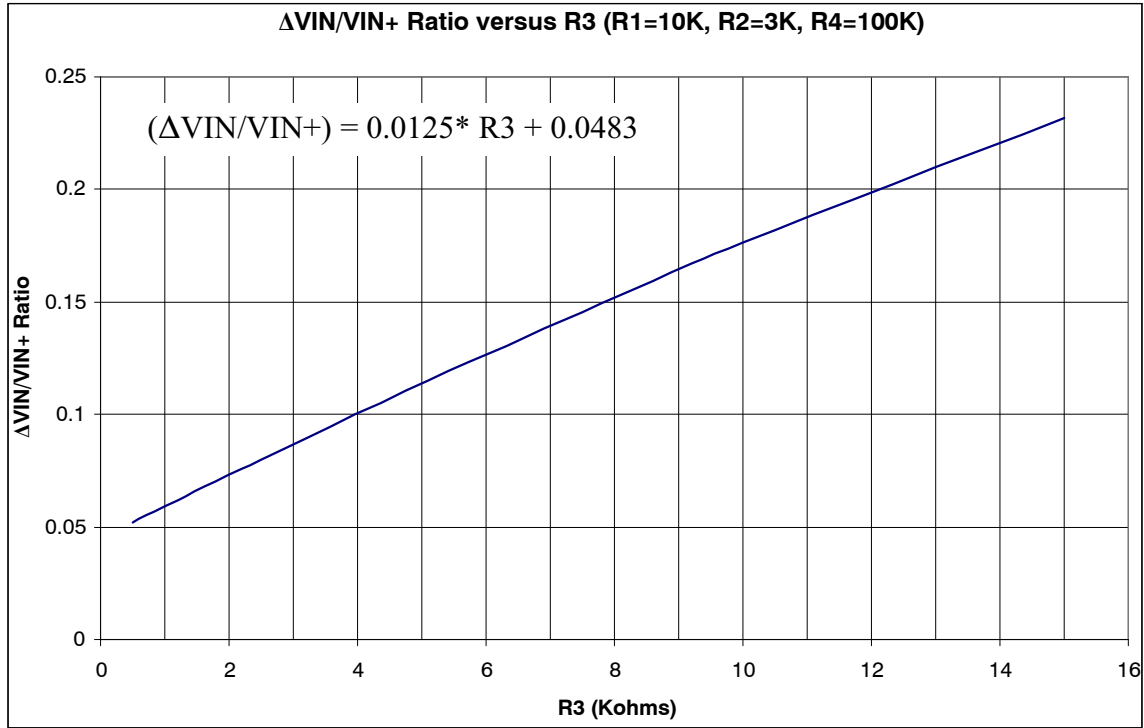
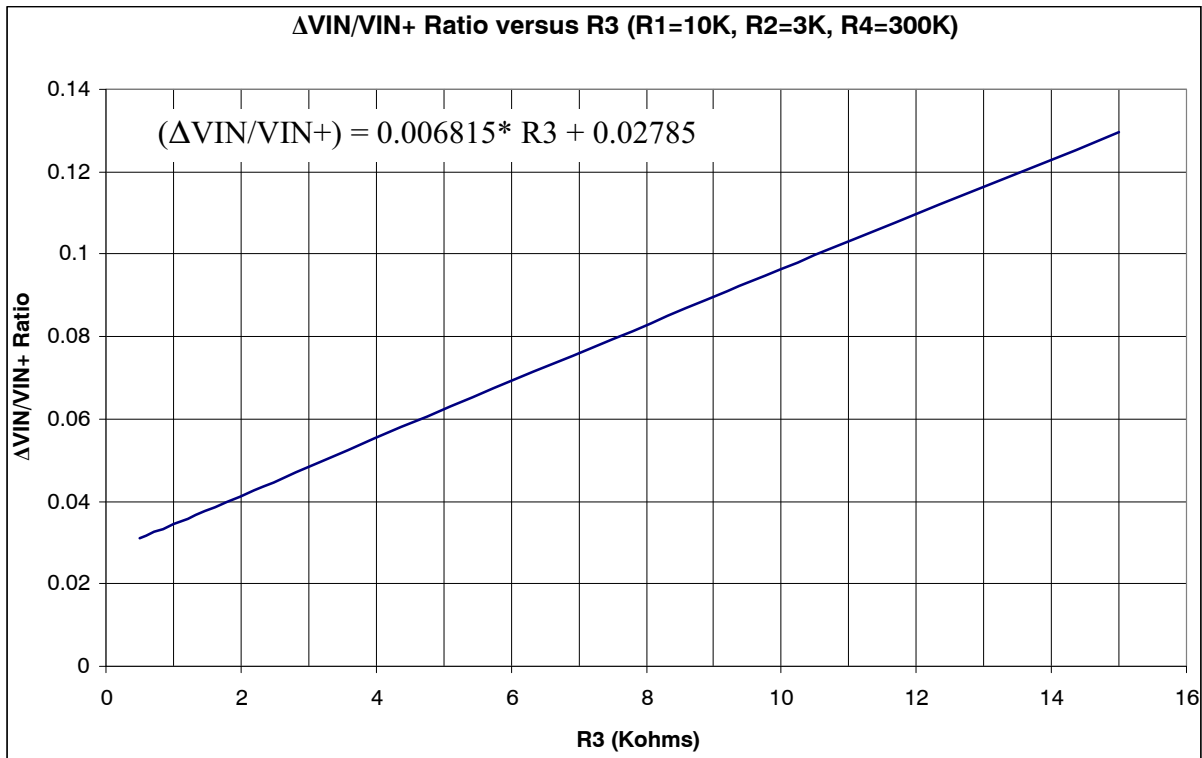
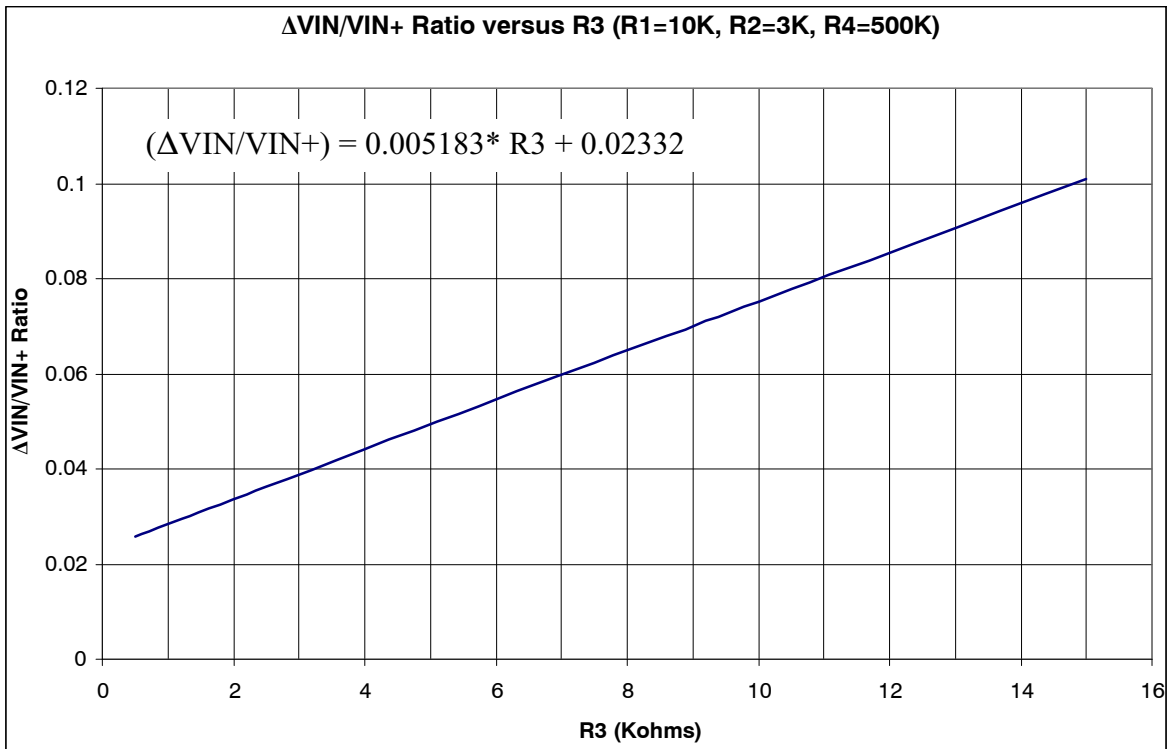

Figure 4. Chart for  $\Delta V_{IN}/V_{IN+}$  Ratio versus R3
Figure 10. Chart for  $\Delta V_{IN}/V_{IN+}$  Ratio versus R3 (R4 = 300k)
Figure 12. Chart for  $\Delta V_{IN}/V_{IN+}$  Ratio versus R3 (R4 = 500k)
3. From Figure 4 chart with make use of the equation provided, evaluate  $R3$  based on the calculated  $\Delta V_{IN}/V_{IN+}$ . If  $R3$  is found to be negative, try to use  $R4 = 300k$  (use Figure 10) or  $R4 = 500k$  (use Figure 12) and repeat  $R3$  evaluation.
**Step 3:** From the Figure 4 chart with make use of equation, we have